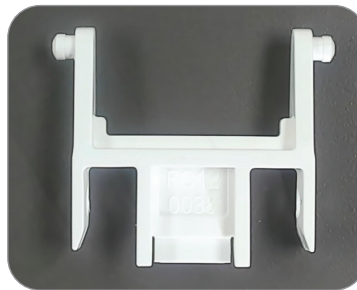

Figure 2
- Adapter is shown with part number facing up as it will be installed. (Figure 2)